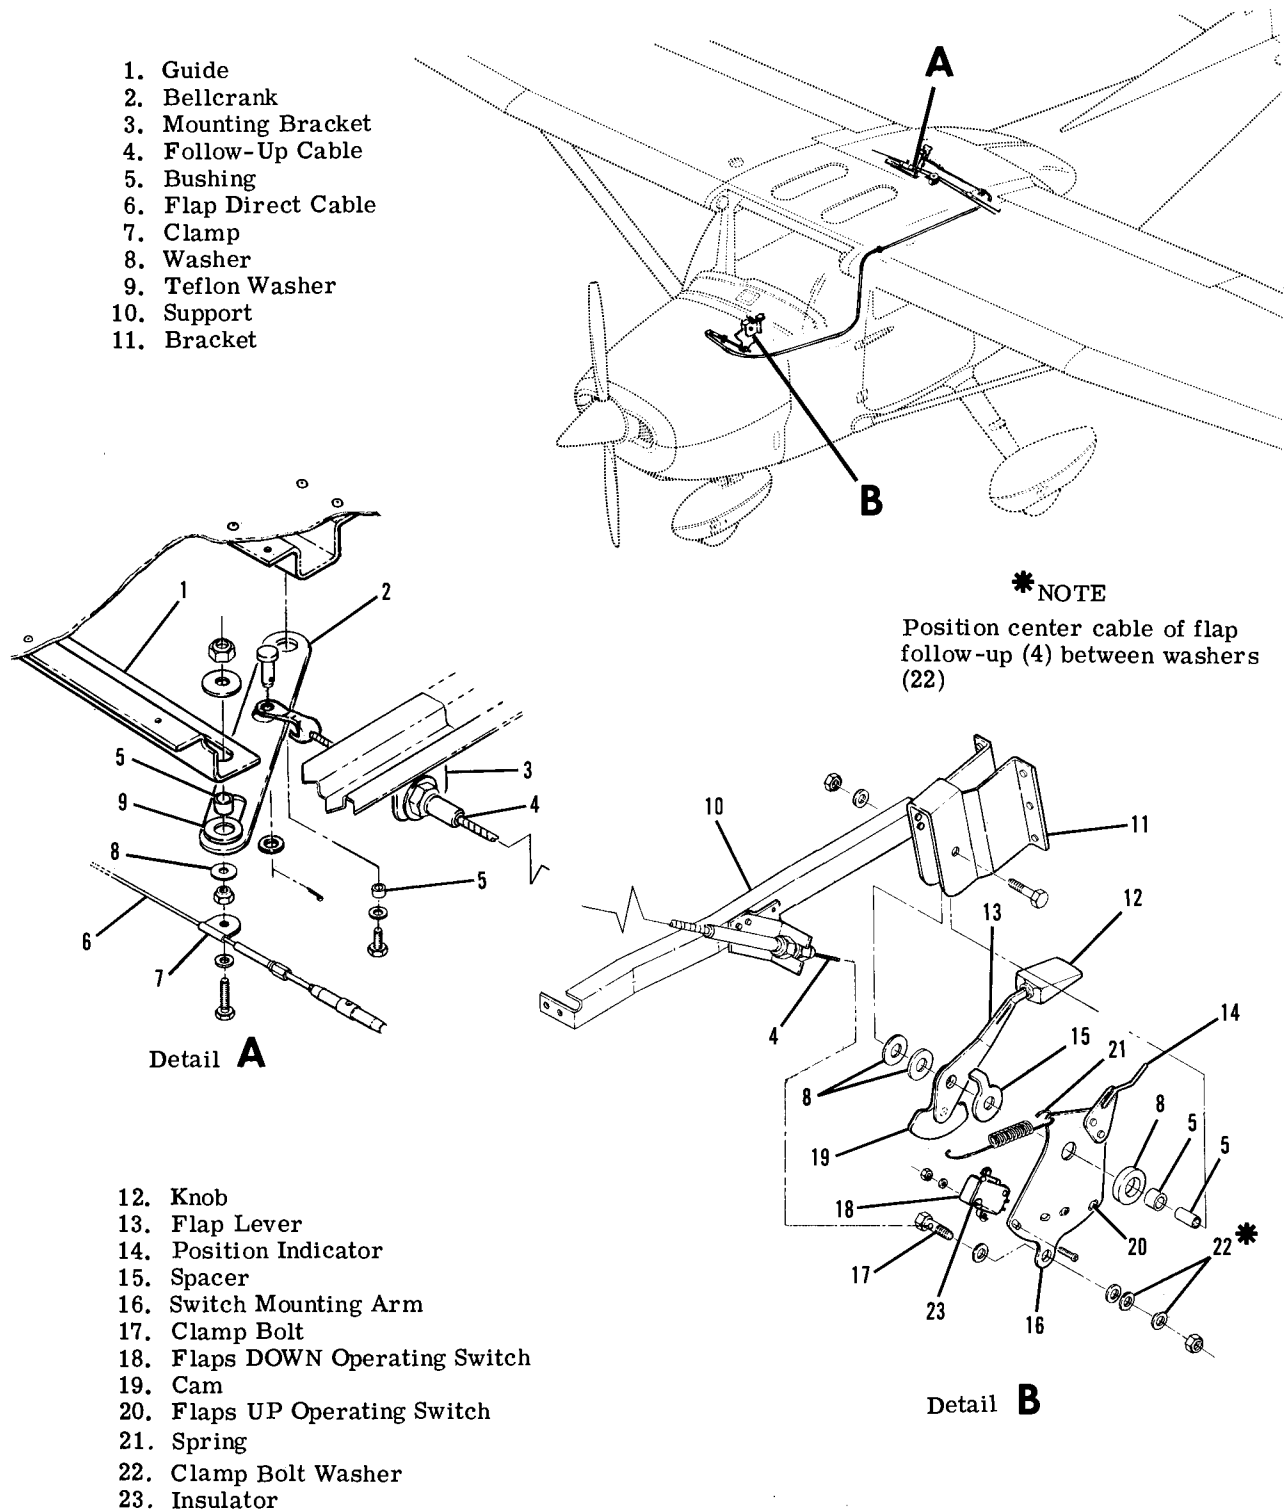

Figure 7-5. Flap Follow-Up Control and Position Indicator
- If direct cable (4) is to be removed, disconnect clamp (index 7, figure 7-5) from bellcrank (index 2, figure 7-5).
- Remove safety wire, relieve cable tension, disconnect turnbuckles (6) and carefully lower LEFT flap.
- b. With flaps in the full UP position, disconnect follow-up cable (index 4, figure 7-5) by removing clevis attaching follow-up cable to bellcrank (index 2, figure 7-5).
#### 7-17. FLAP FOLLOW-UP AND INDICATING SYSTEM. (Refer to figure 7-5.)
7-19. REMOVAL AND INSTALLATION. Figure 7-5 can be used as a guide to removal and installation of the flap follow-up and indicating system.
7-20. RIGGING. (Refer to figure 7-5.)
b. Disconnect spring (21) from switch mounting arm (16).
c. With flaps and flap lever (13) in full UP position and holding flap position indicator (14) to a clearance of .03 inch maximum with top of instrument panel opening, pull center cable of flap follow-up (index 4, detail b) to remove slack. Connect cable thru clamp bolt (17) observing note of figure 7-5.
d. Connect spring (21) to switch mounting arm (16).
e. Adjust switches (18) and (20) in slotted holes in mounting arm (16) until cam (19) is centered between switch rollers.
f. Mount an inclinometer on one flap and set to  $0^\circ$  (flaps full UP). Turn master switch ON and move flap lever (13) to  $10^\circ$  position.